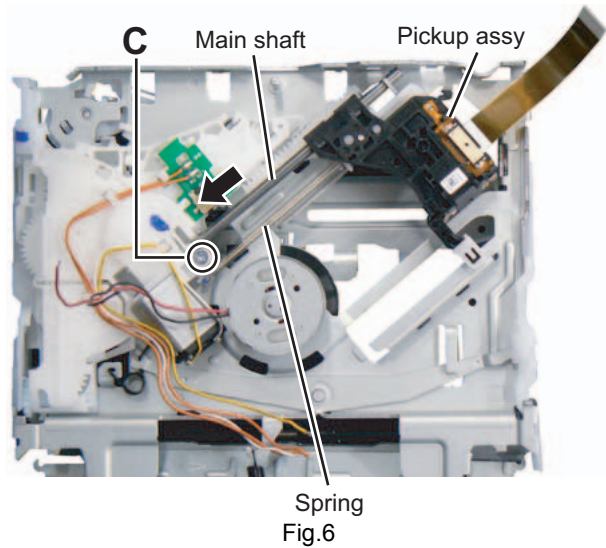

Fig.6
3.2.3 Removing the Pickup assy (See Fig.6)